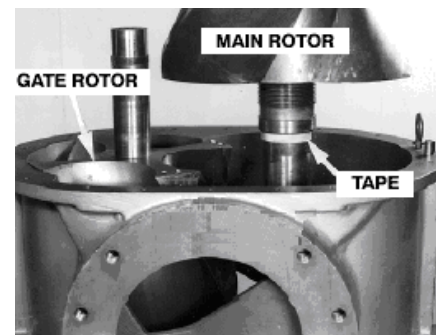

FIGURE 7-4 – ROTORS
Never push the grooved end of the spacer through the bearing oil seal as the lip of the seal may be damaged. Apply Loctite 620 to the ID of the bearing spacer. When the spacers are fitted, slide them on the gear end shaft extension of the rotors with the grooved end toward the rotor. Make sure there are no burrs on either end of the spacer or end of the rotor. Place tape around the shaft to prevent the spacer from sliding off as shown in (Figure 7-4, page 41).
- Be sure the ends of the rotors (2, 3) and machined face of the carrier are free of burrs and dirt. Lower the gate rotor (3) into the housing (1) first (Figure 7-4). The gear end shaft extension, with the bearing must be suspended plum when lowering so the shaft extension and bearing spacer can be carefully guided through the close fit of the shaft seal without damage to the babbitt of the air seal. On older models, match timing marks on the end of the rotor lobes as shown in (FIGURE 7-9, page 43). Rotors must be used in matched pairs. Identifying marks are stamped on the O.D. of the rotors on the same lobe as the timing marks.